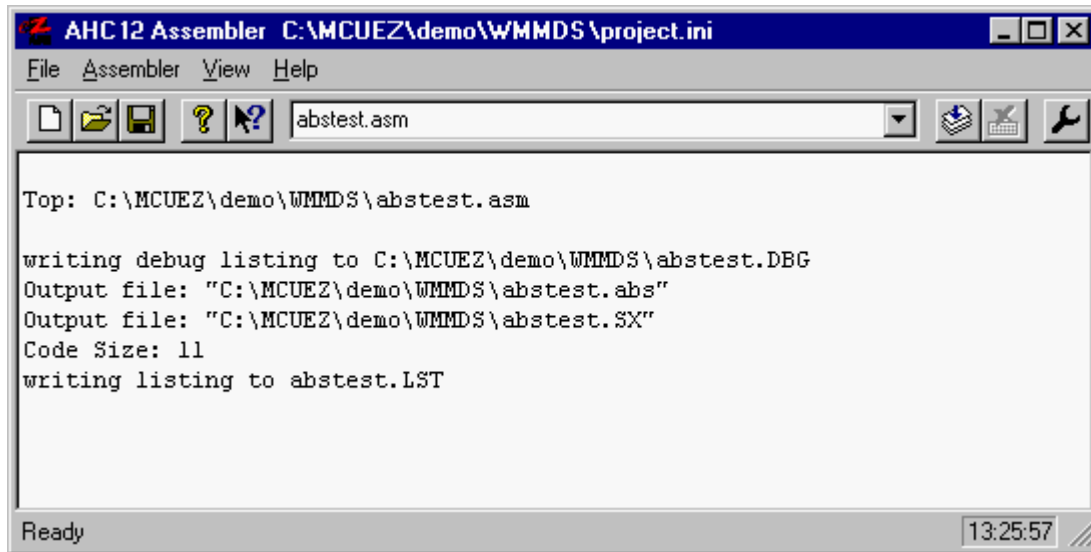

Figure 11-4. Generating an .abs File
4. Select the radio button **ELF/DWARF 2.0 Absolute File** and click **OK**. The assembler is now ready to generate an absolute file. Click on the **Assemble** button to assemble the file. The assembly process is shown in **Figure 11-4**.